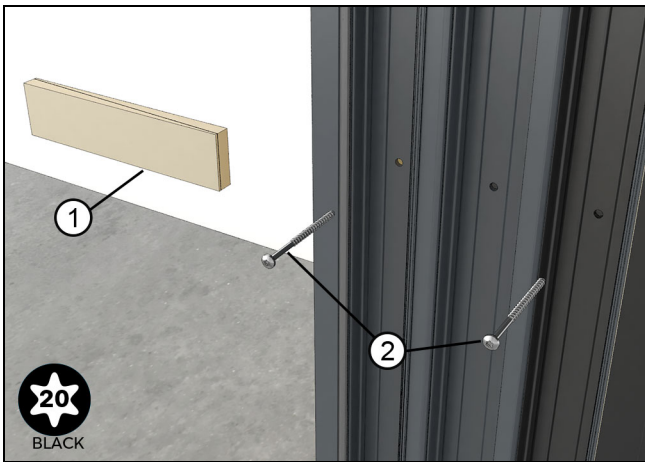

Figure 68
7. Complete fastening and shimming through additional fastener holes in the jamb. See Figure 68.